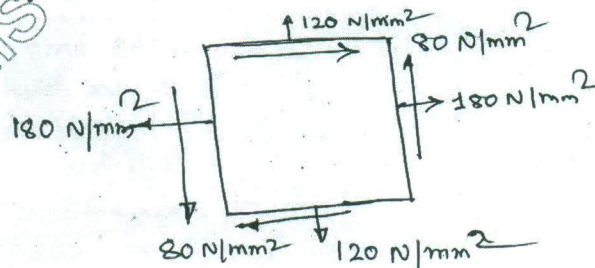

Fig. Q3 (a)
- 3 a. The state of stress at a point in a strained material is as shown in Fig. Q3 (a). Determine : (i) The magnitude of principal stresses. (ii) The direction of principal stresses and (iii) The magnitude of the maximum shear stress and its direction. Indicate all the planes by a sketch. (10 Marks)